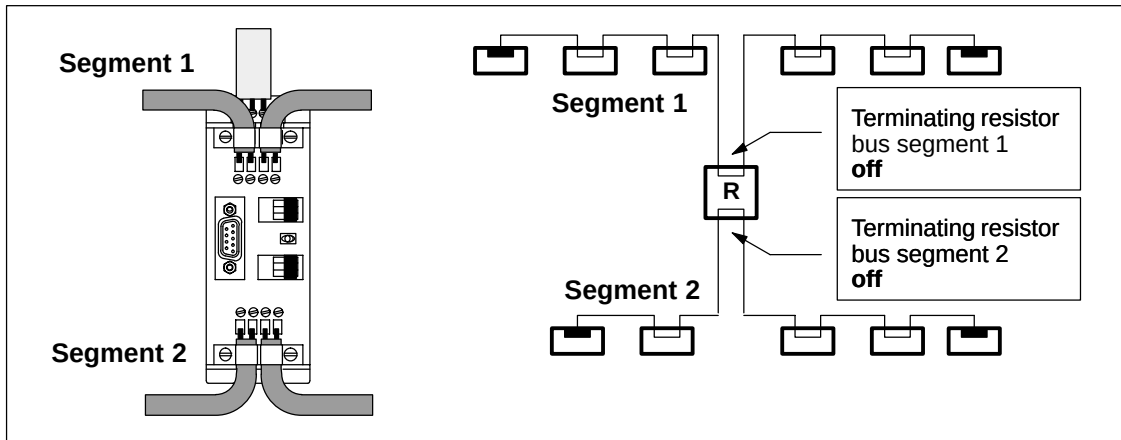

Bild 5-5 Connecting Two Bus Segments to the RS-485 Repeater
- Segment 1 and Segment 2 connected through on the RS-485 repeater (see Figure 5-5)
Figure 5-5 shows the connection between two segments via an RS-485 repeater with each LAN cable connected through: